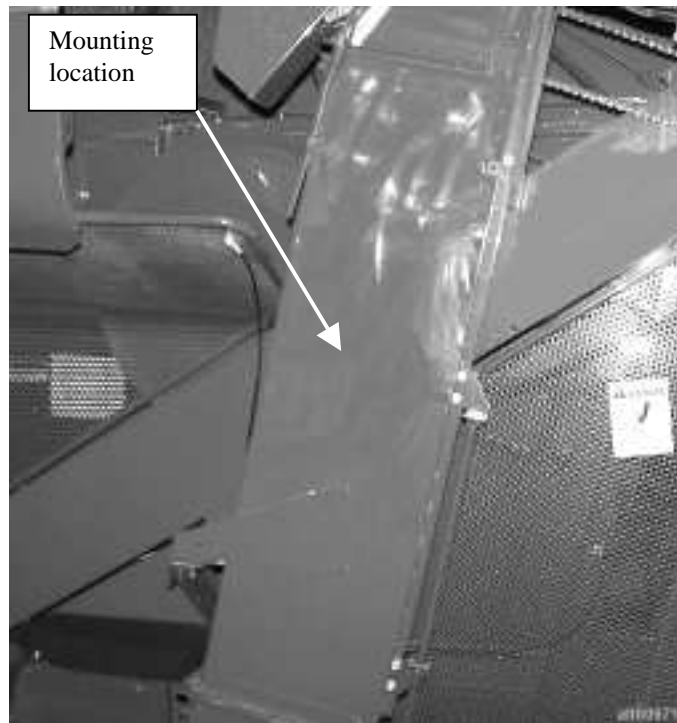

Figure 15. Mounting location
1. Locate mounting location above reinforcement brace as shown in Figure 15.